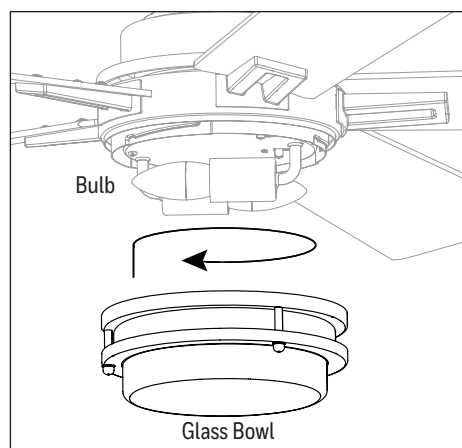

Figure 5.8
- Install the E26-base LED bulb into the socket of the light kit. **Important:** Make sure you allow the bulb and light kit to cool before you replace the bulbs. Attach the glass bowl to the light kit by twisting the glass bowl firmly in a clockwise direction until it is secure. **CAUTION:** Avoid cross-threading the glass during installation. Improper installation could cause the glass bowl to be difficult to remove or fall, which could cause serious injury (Figure 5.8).